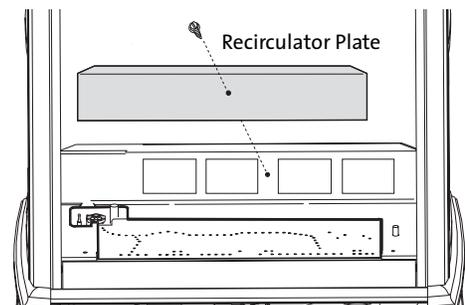

Figure 5. Remove Recirculator Plate.
### 1. For Any Vertically Terminated Stove - Fig. 5.
- Remove the Recirculator Plate from the back of the Burner Skirt as shown in fig. 5. Determine which Air Intake Restrictor plates should be used by following the guidelines on page 9.